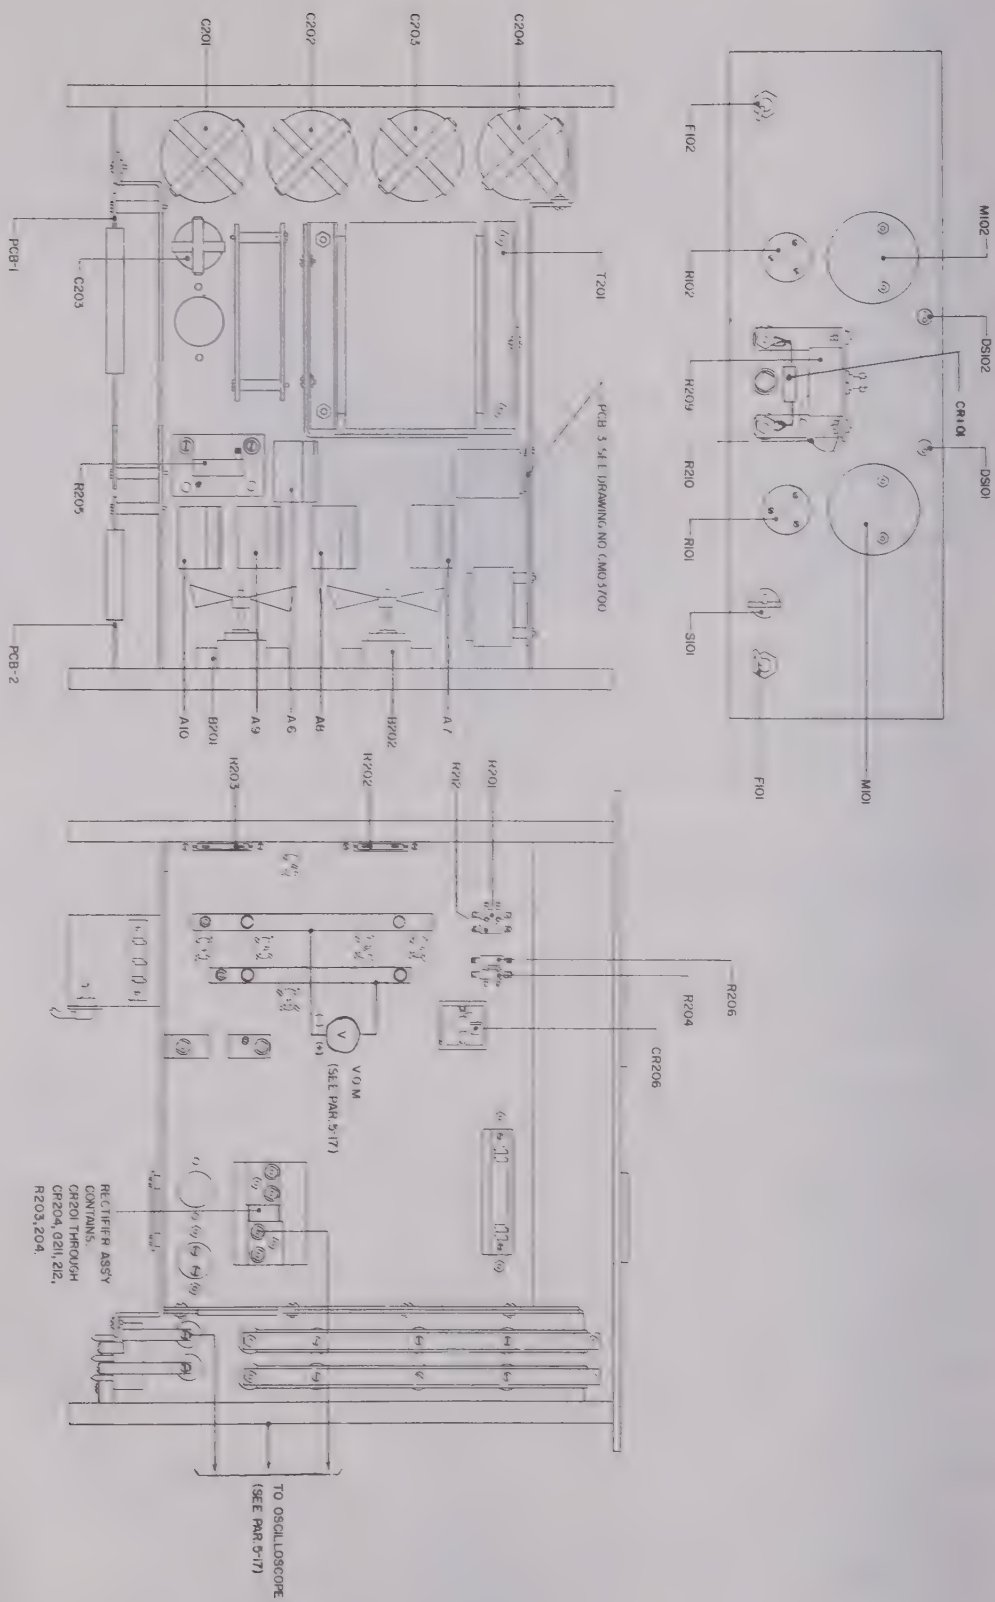

FIG. 5-2 COMPONENT LOCATION, MAIN CHASSIS ASSEMBLY (A-2)
- c) Connect multimeter and oscilloscope as indicated in Fig. 5-2. (Main-Chassis Component Location).